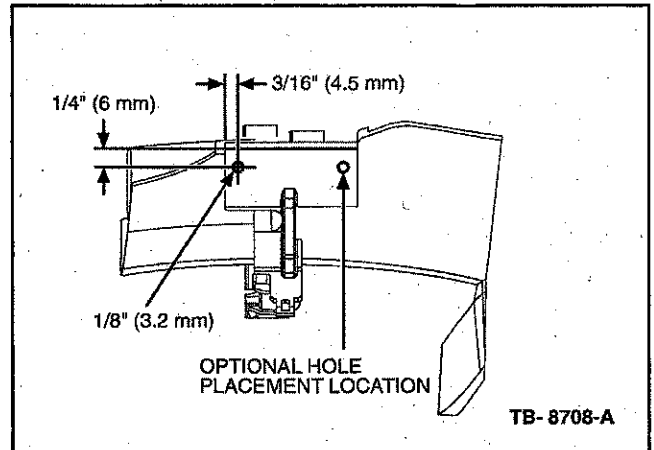

Figure 2 - Article 07-1-4
2. Carefully drill a 1/8" (3.2 mm) diameter hole through both the tab on the harness and the stator as shown (Figure 2). Hold the harness fully down in the stator slot while drilling the hole in order to assure that the harness will be positioned away from the rotating fan.